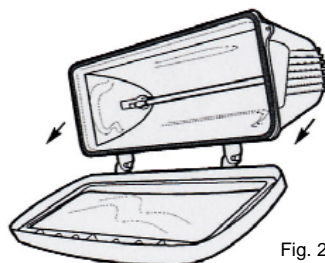

Fig. 2
3. Open hinges front cover. See Fig. 2.